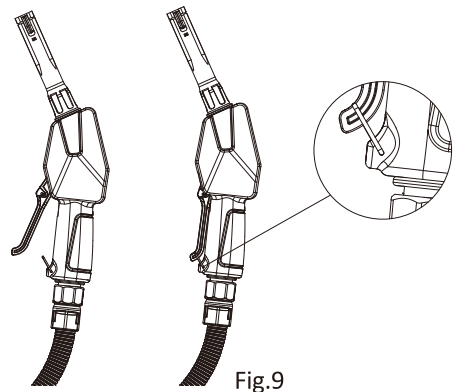

Fig.9
6. For extended refueling, rotate the handle lock to the catch position and release the handle. The lock will hold the handle in place, keeping the fuel passage open for continuous, hands-free operation. To stop refueling at any time, simply lift the handle gently—the lock will automatically spring open and disengage from the catch. Release the handle to close the fuel passage and stop refueling as shown in Fig. 9.